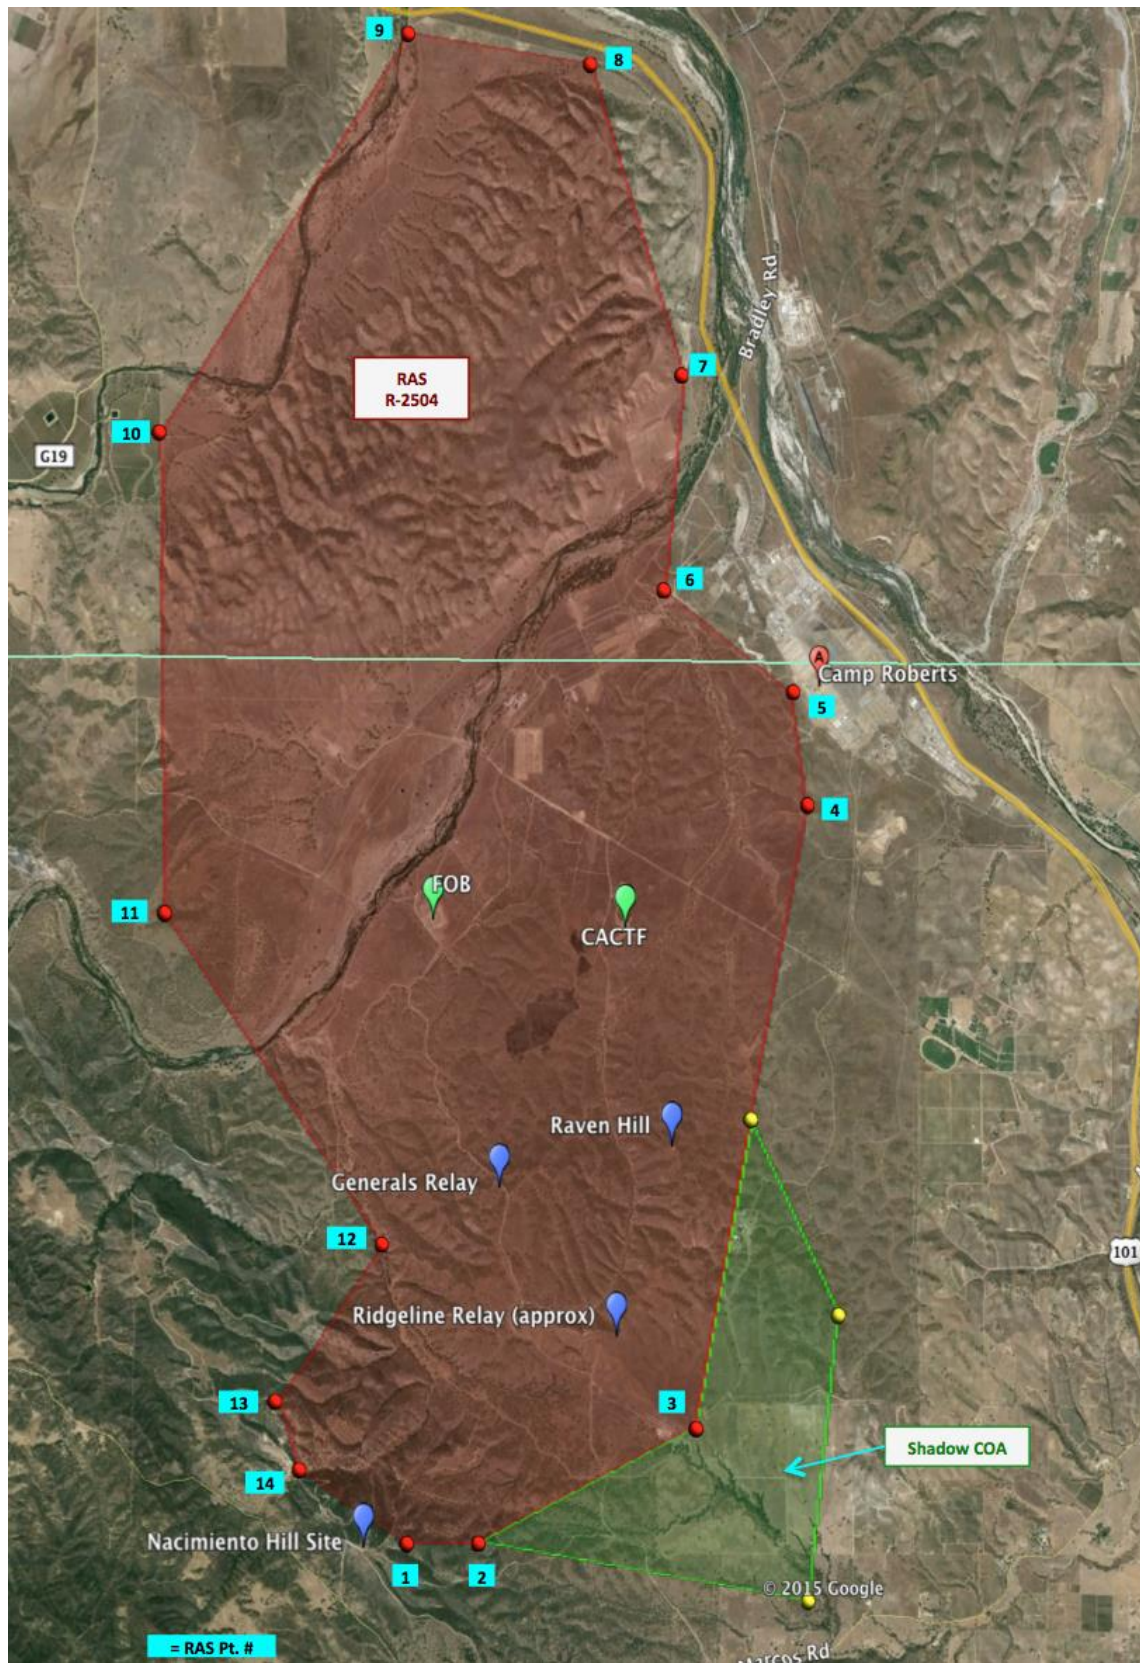

Figure 1. R-2504 Restricted Air Space (RAS) and Shadow UAS COA (2015-WSA-59).
The NPS FX operations airspace (figure 1) lies within R-2504 (sfc to 15,000' MSL). At no time will any participants operate an Unmanned Aircraft (UA) outside of the boundaries of R-2504 unless they are in receipt of an FAA Certificate of Authorization (COA) for such flight activities. Doing so, without prior FAA approval is a violation. Each section of airspace is identified as follows:
- a. **R-2504.** The Camp Roberts restricted airspace R-2504 was amended by the FAA on 7 Jun 2010. This airspace revision created two sub areas (A & B), which together occupy the same exact lateral dimensions. The R-2504A extending from the surface to but not including 6,000 feet mean sea level (MSL) and the R-2504B, extending from 6,000 MSL to 15,000 feet MSL. Together, R-2504A and R-2504B occupy the same lateral and vertical dimensions of the original R-2504. This action was created to allow for greater access to airspace by both Visual Flight Rules (VFR) and Instrument Flight Rules (IFR) aircraft when the RAS is active. The R-2504 coordinates are listed in Table 1 and depicted in Fig 1.